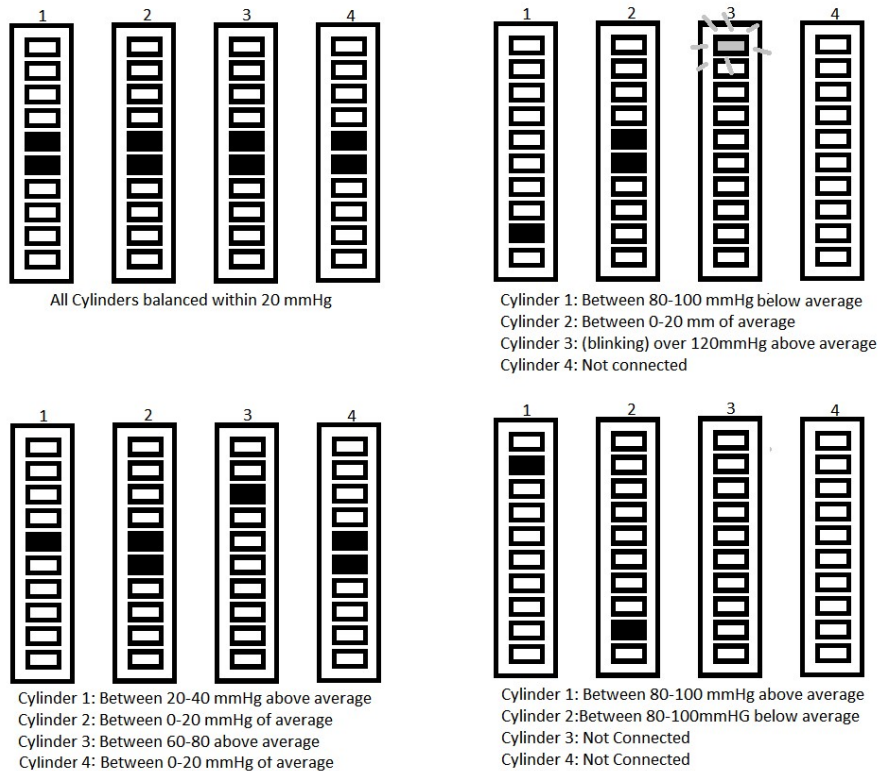

Figure 3 - Examples of Bar Display indications
The SynchroKing 4S Mk2® calculates the average value of all active channels and compares the individual value of each channel to this average. The deviation from average is displayed on the bar graph of the channel. Each bar represents 20 mmHg vacuum differential, whereas the two middle being lit indicate a pressure differential of less than 20mmHg (i.e the vacuum being practically the same in both manifolds). See Figure 3 for examples.
7. With the throttle fully closed, adjust, as necessary, the stationary adjuster screw on the carburettor or throttle valve body, until the bar displays equal vacuum in both inlet manifolds. (See Figure 3).